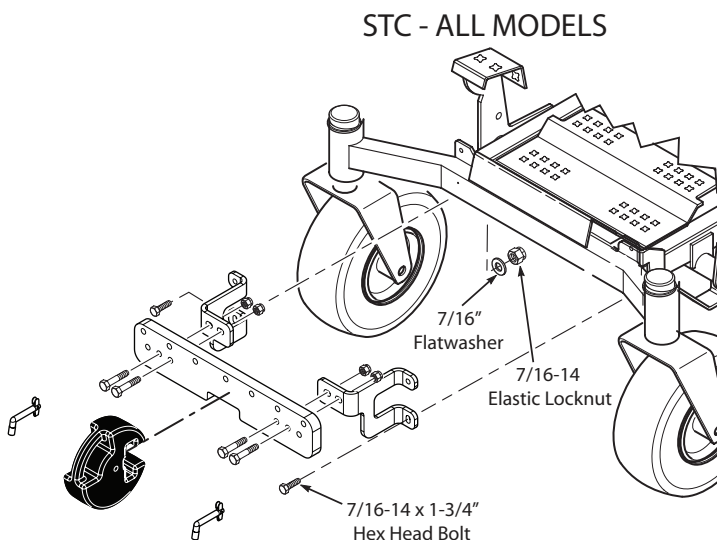
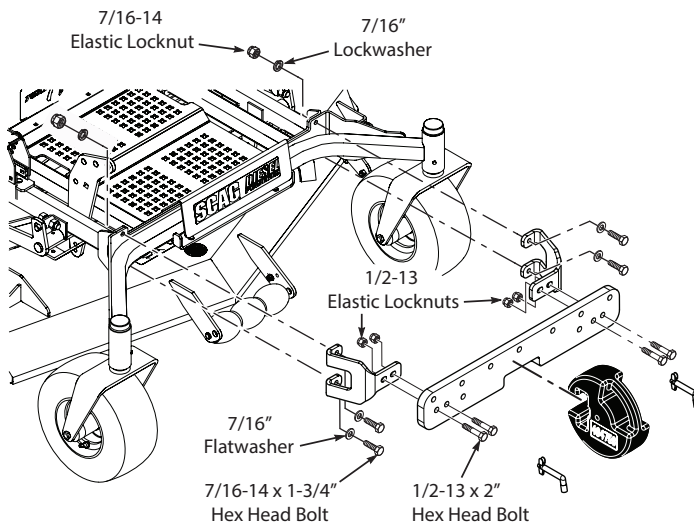

Figure 2-15. STC Front Weight Bar Installation
Figure 2-18. STT-Diesel, STTII, SCZ & SCZII 61" Weight Bar Install
1. Referring to the machine model, assemble the front weight bar as shown in Figure 2-15 through Figure 2-18.
2. Using the weight support bar as a guide, identify the corresponding mounting holes used to secure the weight support bar to the front of the machine as shown in Figures 2-15 through Figures 2-18.